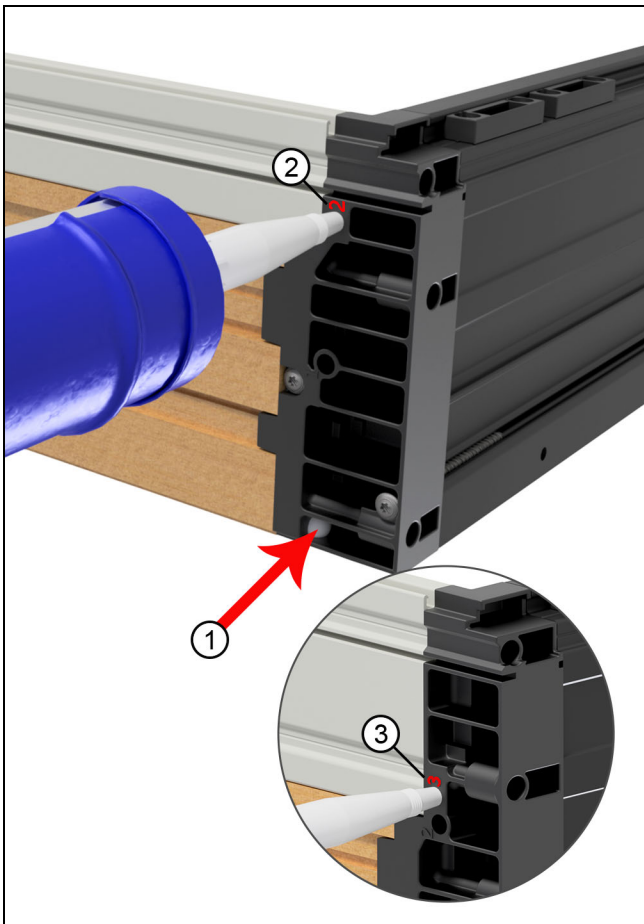
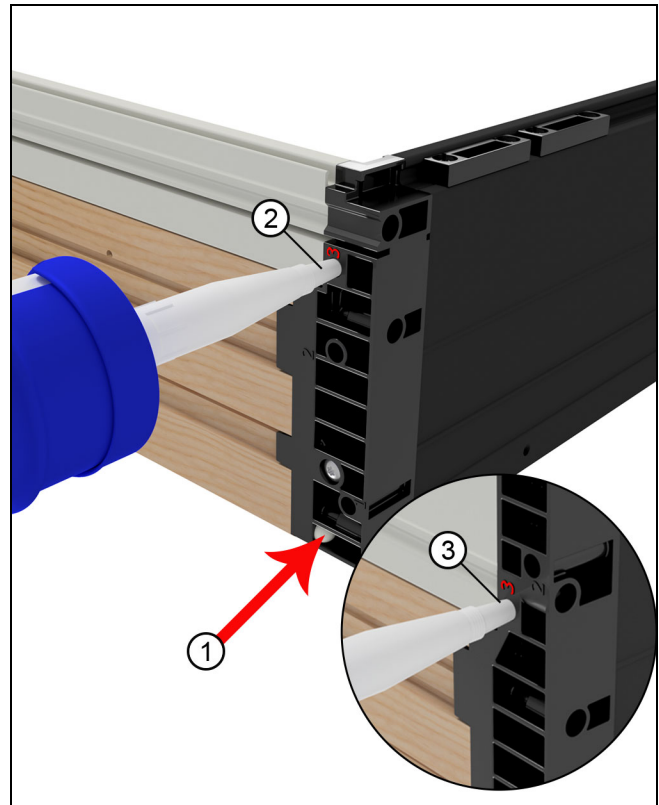

Figure 10 Performance sill shown
Figure 11 Accessibility sill shown
1. On 4-9/16" jambs, locate the injection hole on the side of the sill key labeled "2". Inject the provided sealant into the key until you see squeeze out in the inspection hole shown below. See Figure 10 for performance sills and Figure 11 for accessibility sills.
2. On 6-9/16" jambs, locate the injection hole on the side of the sill key labeled "3". Inject the provided sealant into the key until you see squeeze out in the inspection hole shown below. See Figure 10 (inset) for performance sills and Figure 11 for accessibility sills.